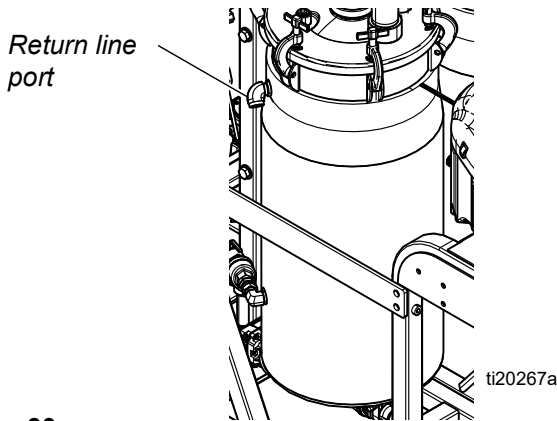

FIG. 30
- Disconnect the material circulation return line from the side of each tank then cap the tank port. This enables pushing the mineral oil out of the fluid lines. Route the return lines into waste containers. See FIG. 30.